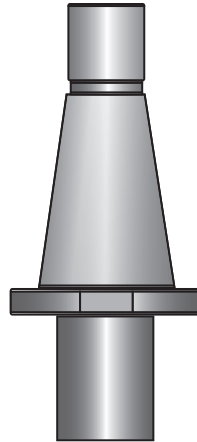

Figure 1-1
CNC equipment enables more efficient machining by allowing the combination of several operations into a single setup. This combination of operations requires the use of multiple cutting tools. An automatic tool changer (ATC) is a standard feature on most CNC machining centers, while many CNC knee-mills still require manual installation of the tool. The illustrations in this section show types of tool holders used on CNC machines; they have distinct physical differences and all of the holders are tapered. In Figure 1-1, the tool holder has only one ring and is designed for machines that require manual tool changes. The tools in Figures 1-2 (BT), 1-3 (CAT), and 1-4 (HSK) are designed for machines that have automatic tool changers. The rings act as a gripping surface for a tool changer. The tapered portion of the holder is the actual surface that is in contact with the mating taper of the spindle. These tapers are standardized by the industry and are numbered according to size. Common sizes for CAT tooling are: No. 30, 40, and 50. Common sizes for HSK tooling are: 40, 50, 63, 80, and 100.